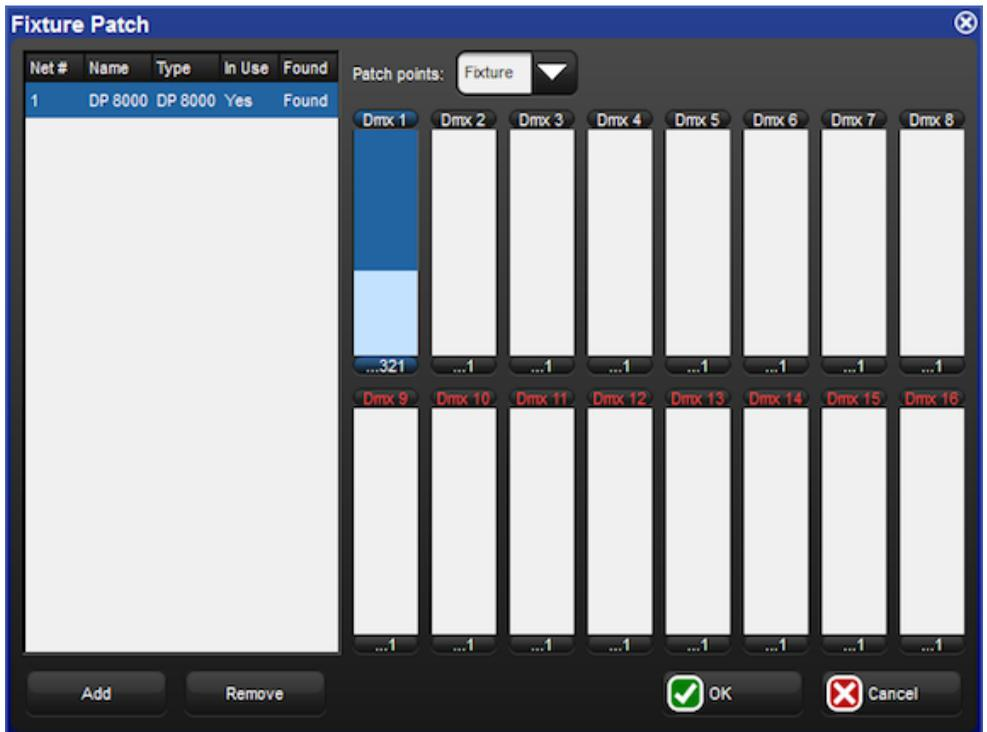

Figure 5.2. The Fixture Patch window
2. Select the fixture fixtures you wish to patch and then press the Patch @ button to open the Fixture Patch window. See Figure 5.2, "The Fixture Patch window".